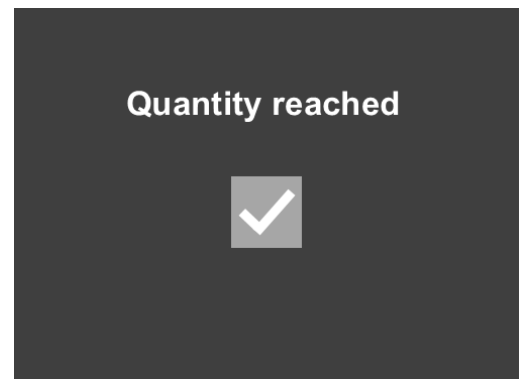

Figure 8.4.8
- When the defined quantity is reached, an information message appears on the display, which must be confirmed by touching. See Figure 8.4.8.